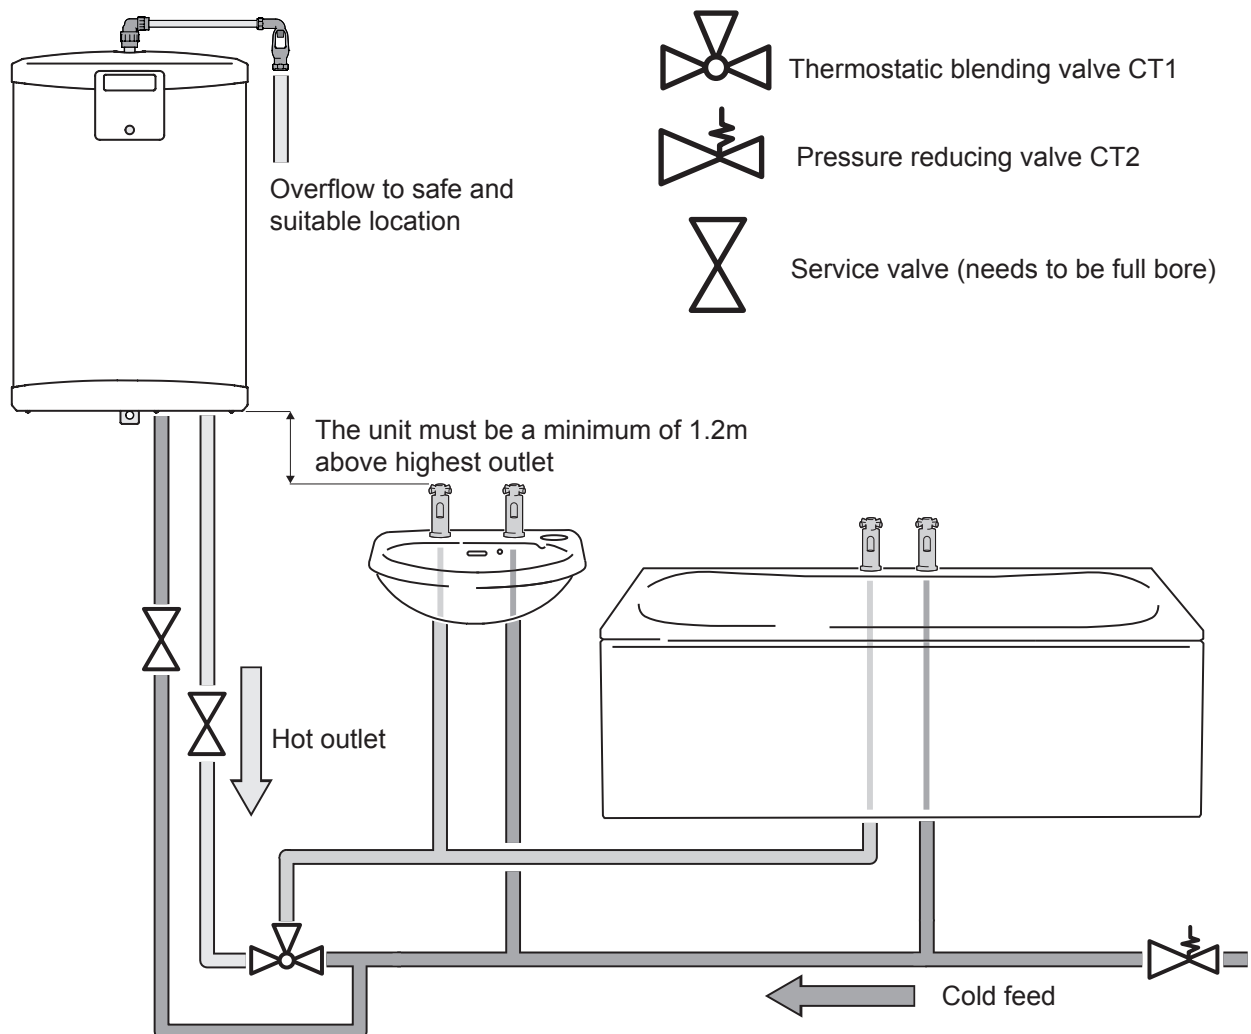

Figure 7: Example of typical installation (not to scale)
These water heaters are vented and can supply multiple hot water outlets. The units must be mounted higher than the taps they supply, refer to figure 7 below, due to gravity supplied hot water.
- ▶ Mark the position of the bottom edge of the heater ensuring that this position is a minimum of 1.2 meters above the highest draw off point see figure 7, page 13.
Each installation can differ in requirement see figure 7, page 13 for a typical installation.